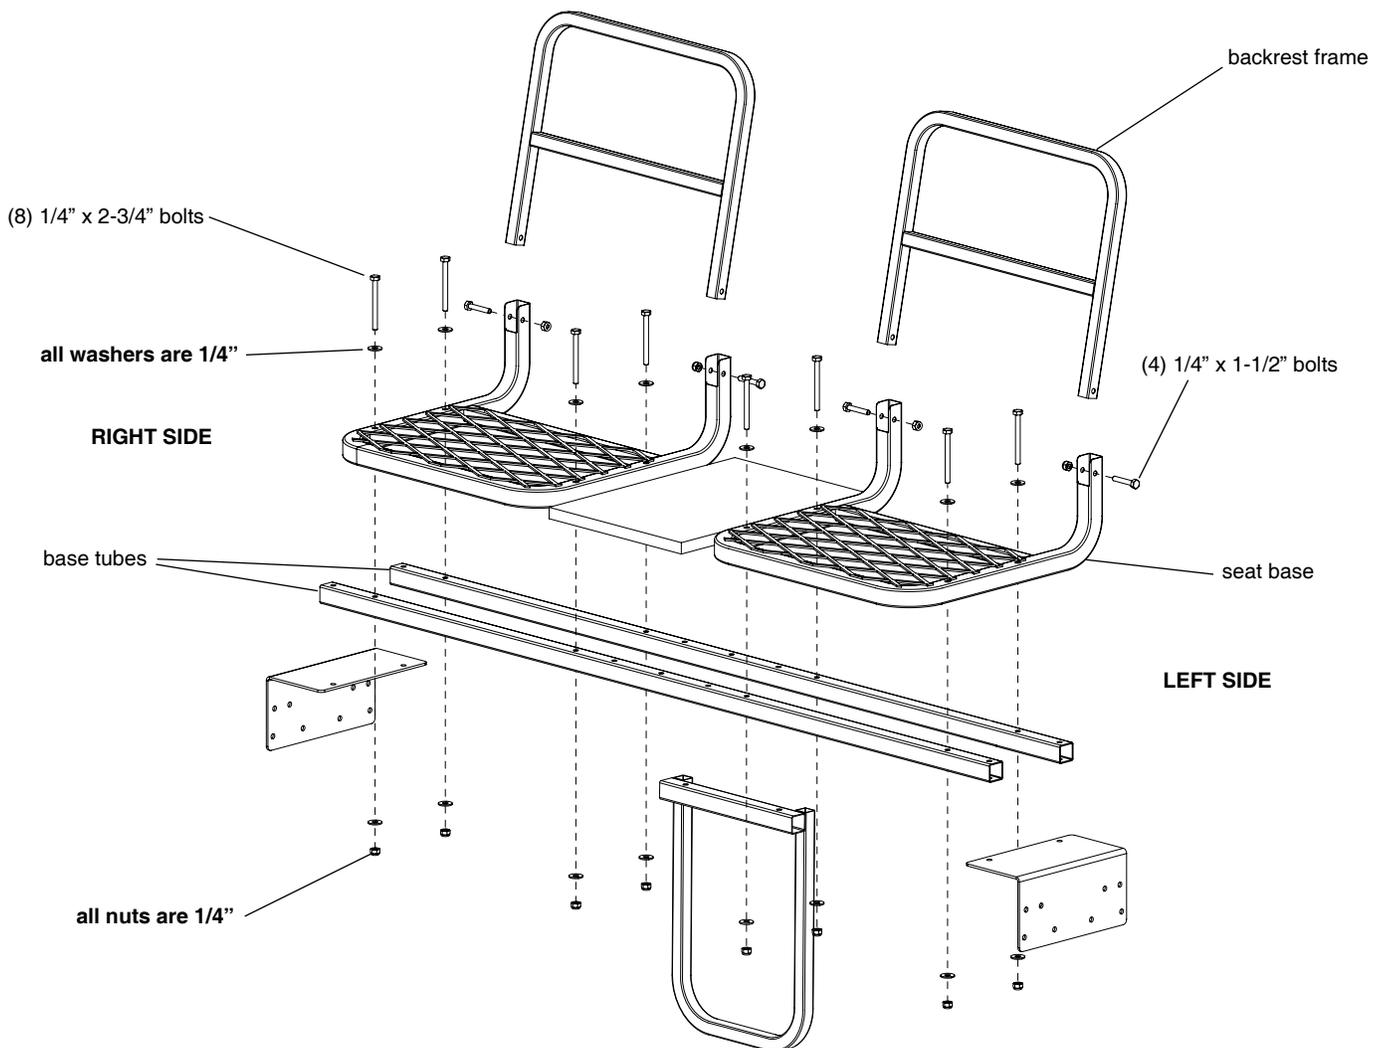

FIGURE 3B
4. Attach (2) seat bases (68435) to top of base tubes using (8) provided 1/4-20 x 2-3/4" bolts, nyloc nuts and (16) washers. **SEE FIGURE 3B.**
5. Attach backrest frame (68433) to each seat base using (4) provided 1/4-20 x 1-1/2" bolts and nyloc nuts. **SEE FIGURE 3B. You may now tighten all nut & bolt assemblies. Be sure not to over tighten or crush tubing when tightening!**
6. Attach (2) removable seat cushions (68162) to the top of seat bases and snap the side release buckles together. Pull straps tight so seat is not loose.
7. Attach (2) removable backrest cushions (68163) to the backrest frames and secure with Velcro.